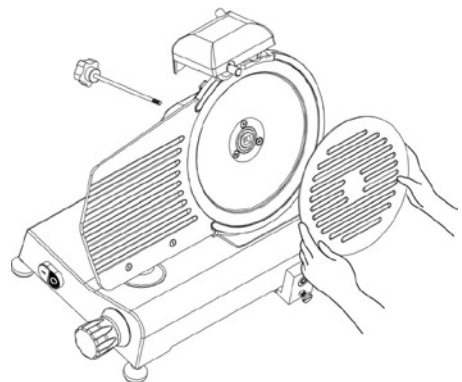

Fig. 6 – Blade guard removal
Unscrew of the knob of the tie screw (1) (see Fig. 6) to release the blade guard (2).
**WARNING: The blade cleaning must be carried out with a wet cloth with metal gloves (3) on.**